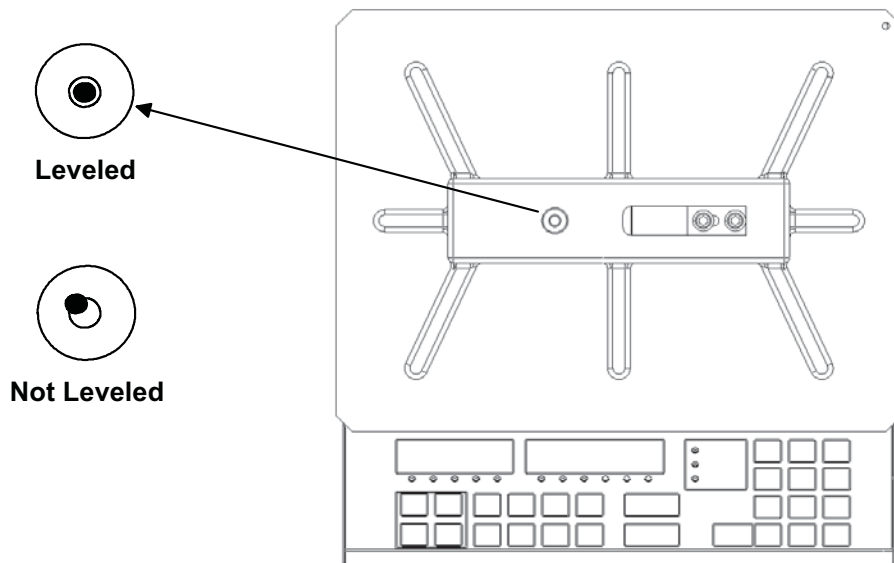
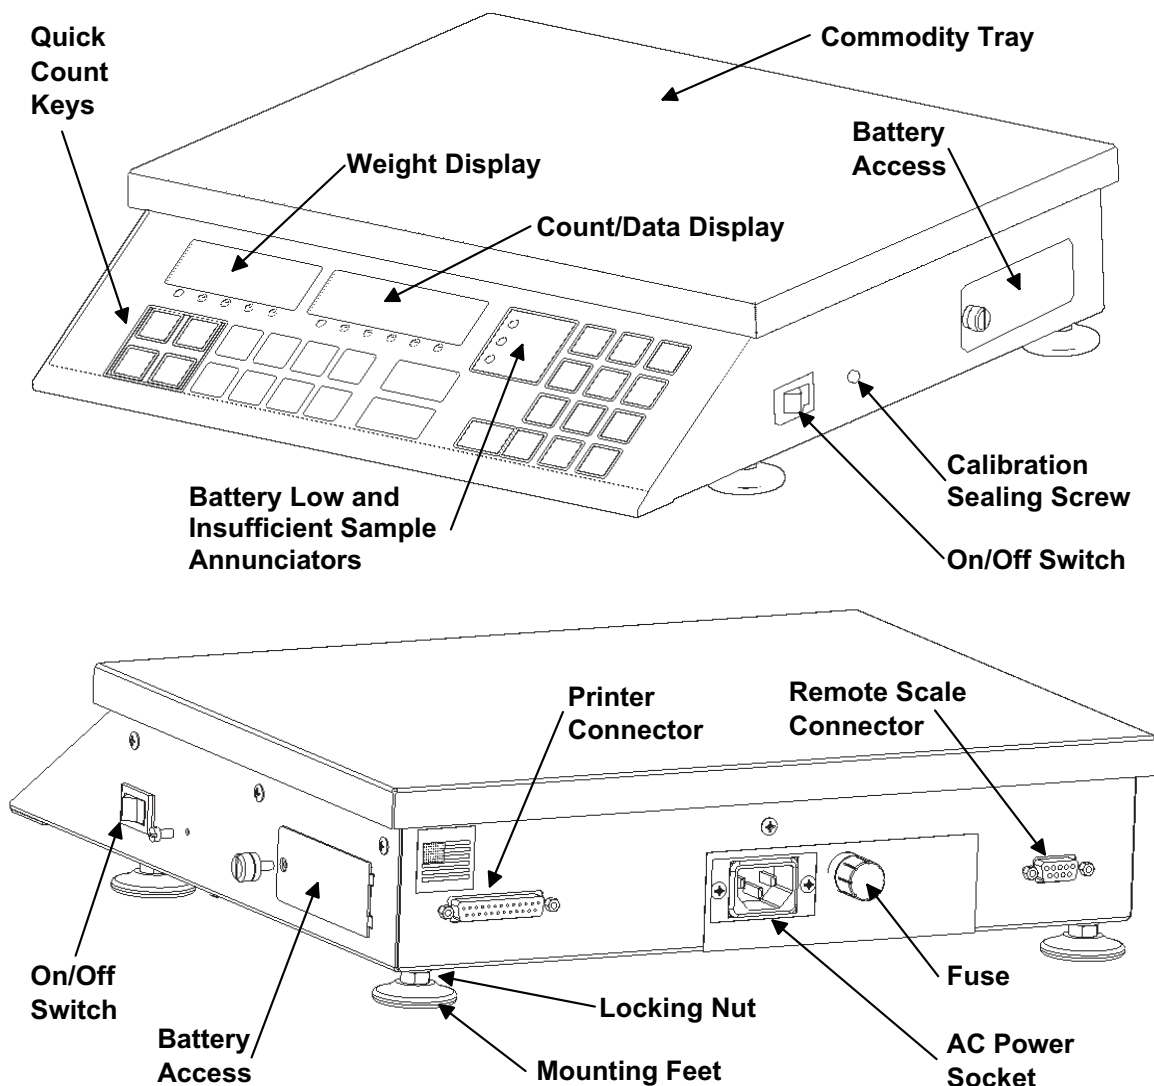

Figure No. 1
Figure No. 2
Check to make certain the scale is level. The level indicator is located in the center of the weighbridge under the Stainless Steel commodity tray. Remove the commodity tray and observe the level bubble (see Figure No. 1). If the scale is not level (the bubble will not be centered), loosen the locking nut on all four (4) mounting feet (see Figure No. 2) and adjust them as required to center the bubble and attain a level scale. Once a level condition has been obtained, lock the mounting feet in place by tightening the adjustment nuts against the bottom of the scale.
If a remote scale is used, it connects to the counting scale via a 9-pin "D" connector (REMOTE SCALE) located on the rear panel of the scale (see Figure No. 2). Before connecting your remote scale to the counting scale, verify that your scale cable is correctly wired. Refer to Figure No. 3 for pin identification of the remote scale connector.